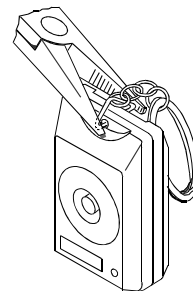

Figure 6. Key-Ring Installation
- Slip the key-ring triangle through the last link of the key-ring chain and install the triangle into the hole on the top of the WT-201 (Figure 6).